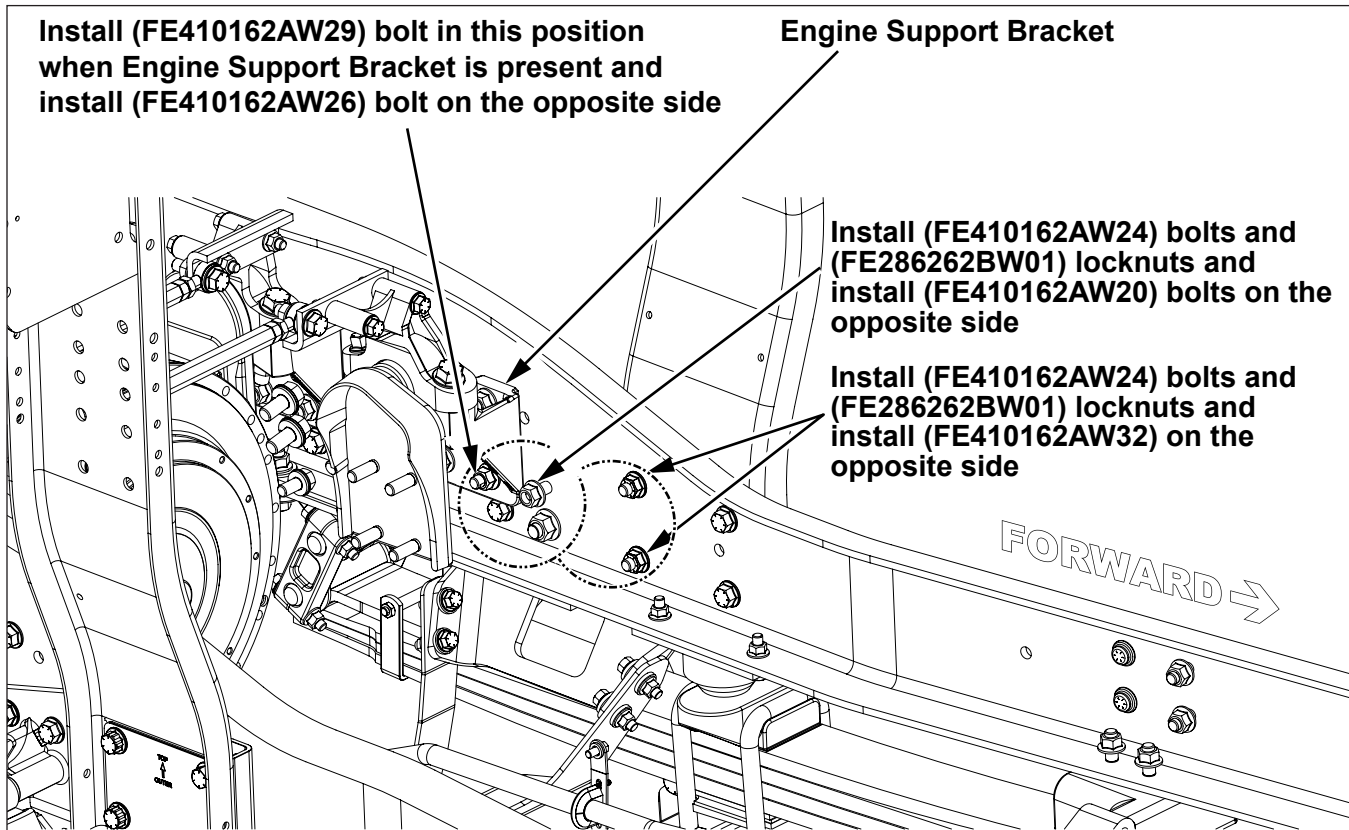

**Figure 5, Outboard Frame View**
5. Install the (S3730004-001) Left shock/crossmember bracket with the (S4160006-001) spacer plate and the (S3730002-002) right shock/crossmember bracket. Install the (S4160002-001) underslung crossmember from underneath the frame using the hardware designated in the following figures. Install all fasteners loosely to position the crossmember and then tighten the 3/4" bolts to 300 lb. ft. of torque, the 5/8" bolts to 200 lb. ft. of torque and the 1/2" bolts to 90 lb. ft. of torque (see Figures 5, 6, 7, 8 and 9).